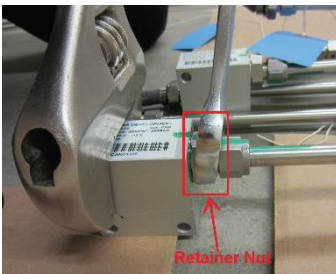

Figure 31: Separate the trigger line and the PRD block.
2. Using an adjustable wrench or body fixture, hold onto the PRD block and using a 7/8" wrench, hold onto the flats of the retainer nut (Figure 31).